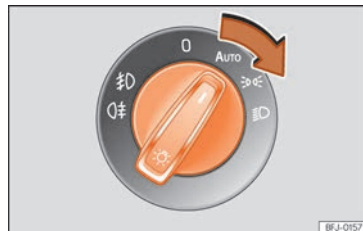

Fig. 92 Dash panel: lights control.
- Turn the switch to the required position » Fig. 92.
- Turn on the ignition and turn the light switch to the position **AUTO** >>> Fig. 92.
- Turn the light switch to a position other than **AUTO** » **Fig. 92.**